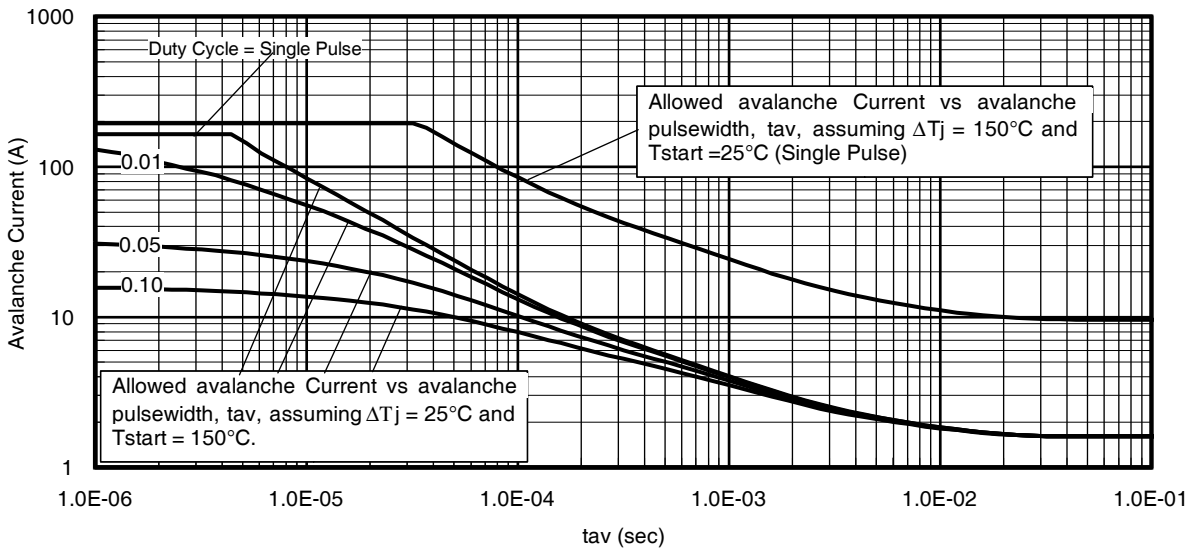

Fig 14. Typical Avalanche Current vs. Pulsewidth
- ④ $I_{SD} \leq 165A, di/dt \leq 430A/\mu s, V_{DD} \leq V_{(BR)DSS}, T_J \leq 175^\circ\text{C}$.
- ⑤ Pulse width $\leq 400\mu s$; duty cycle $\leq 2\%$.
- ⑥ $C_{oss\ eff. (TR)}$ is a fixed capacitance that gives the same charging time as C_{oss} while V_{DS} is rising from 0 to 80% V_{DSS} .
- ⑦ $C_{oss\ eff. (ER)}$ is a fixed capacitance that gives the same energy as C_{oss} while V_{DS} is rising from 0 to 80% V_{DSS} .
- ⑧ When mounted on 1" square PCB (FR-4 or G-10 Material). For recommended footprint and soldering techniques refer to application note #AN-994.
- ⑨ $R_{\theta j}$ is measured at T_J approximately 90°C .
- ⑩ Limited by T_{Jmax} , see Fig. 14, 15, 22a, 22b for typical repetitive avalanche performance.
- ⑪ $R_{\theta jc}$ value shown is at time zero.
Notes on Repetitive Avalanche Curves, Figures 14, 15:
7. ΔT = Allowable rise in junction temperature, not to exceed T_{jmax} (assumed as 25°C in Figure 14, 15).